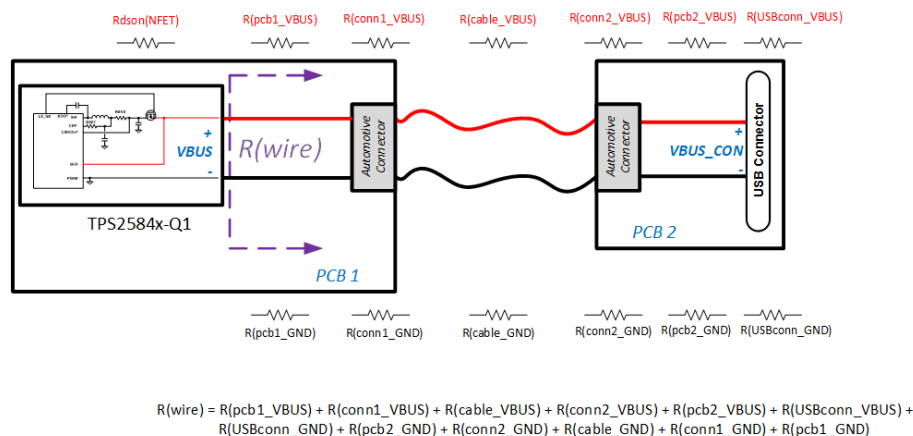

Figure 10-19. Automotive USB Resistances
When a load draws current through a long or thin wire, there is an IR drop that reduces the voltage delivered to the load. Cable drop compensation linearly increases the voltage at the CSN/OUT pin of TPS2584x-Q1 as load current increases with the objective of maintaining $V_{\text{BUS_CON}}$ (the bus voltage at the USB connector) at 5 V, regardless of load conditions. Most portable devices charge at maximum current when 5 V is present at the USB connector. Figure 10-19 provides an example of resistor drops encountered when designing an automotive USB system with a remote USB connector location.
- Cable compensation: Total resistance including cable resistance, contact resistance of connectors, TPS2584x-Q1 current sense resistor and external NFET $r_{DS(on)}$ (if used). Refer to Figure 10-19 for examples of resistance in an automotive application.